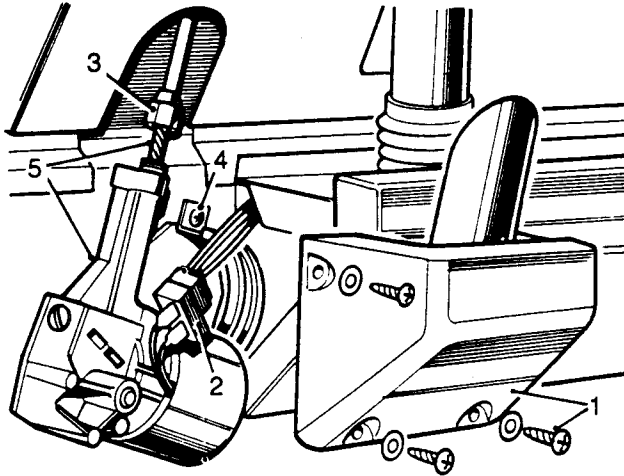

Fig V3.7
- (3) Refer to Fig V3.7. Remove the left hand end cover from the lower fascia (1).
- (4) Disconnect the electrical plug from the wiper motor (2).
- (5) Disconnect the drive cover tube (3) from the wiper motor.
- (6) Slacken the clamp (4) securing the wiper motor.
- (7) Remove the wiper motor, withdrawing the drive from the cover tube (5).